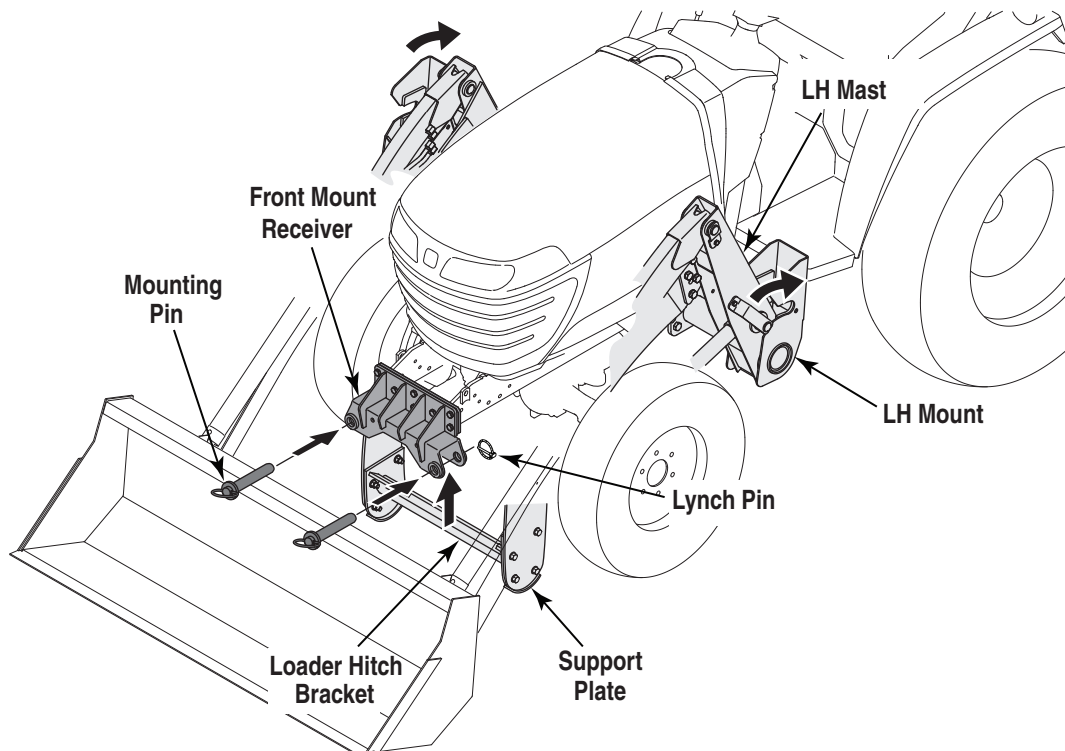

Figure 11
- While observing the base of the masts, slowly push the implement control lever forward to lower the boom, and to the right to dump the bucket. Drive the tractor forward (as needed) to settle the masts onto the tubular bars of the RH and LH mounts. Refer to Figure 11.
- When the masts are firmly settled into the tower mounts, continue to slowly push the control lever forward, and to the right, to raise the loader hitch bracket upward into the front mount receiver. As the loader hitch bracket is raised, the boom cylinder pivot pins should also rotate back into the notches of the RH and LH mounts. Refer to Figure 11. Drive the tractor forward as necessary.
- Remove the two lynch pins and withdraw the mounting pins from the front mount receiver. Refer to Figure 11.
- When the masts are firmly settled into the RH and LH mounts, continue to slowly push the control lever forward, and/or to the right, to raise the loader hitch bracket upward into the front mount receiver. As the hitch bracket is raised, the boom cylinder pivot pins should also rotate back into the notches of the RH and LH mounts. Refer to Figure 11. Drive the tractor forward as necessary.